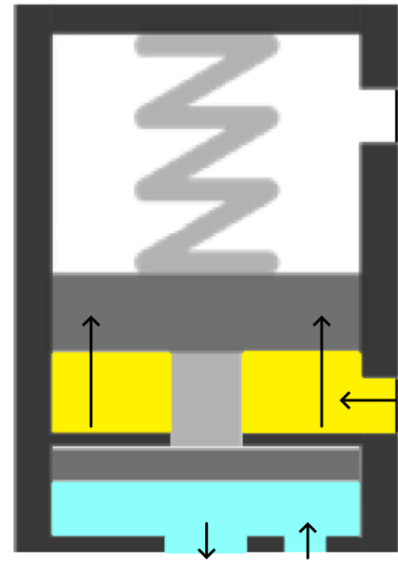

Figure 05 – Single and Double Effect Dosing Phase
In the case of a simple effect, what keeps the valve closed is the spring, so the fluidic pressure must be below the pressure generated by the spring to keep the valve closed (Figure 03). The fluid is located at the fluidic inlet, the inlet of which is blocked by the diaphragm, held in place by the needle that is pushed by the spring. When the button on the handle is pressed, the PLC sends a signal to the solenoid valve to change state, to let the air enter from the dosing inlet, raising the piston and, consequently, also the needle and the diaphragm, allowing the fluid to pass to the nozzle (Figure 05).
- The needle rises, lifting the diaphragm and allowing the fluid to exit (Figure 05);